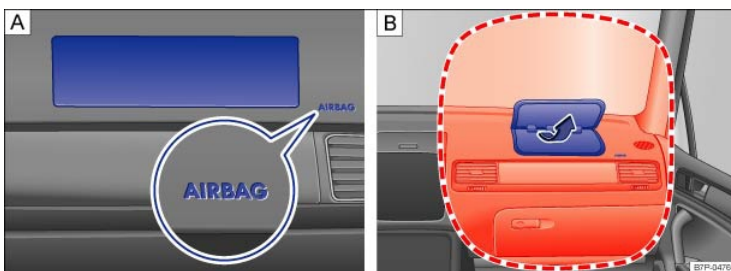

Fig. 68 Location and deployment zone of the front passenger front airbag.
- Never place accessories or other objects (such as cup holders, telephone brackets, notepads, navigation systems, or things that are large, heavy, or bulky) on the doors or attach them to the doors; never place them over or near the area marked AIRBAG on the steering wheel, instrument panel or seat backrests or between those areas and someone in the vehicle → *Fig. 68*. Such objects could cause serious injury in a collision, especially if an airbag inflates.